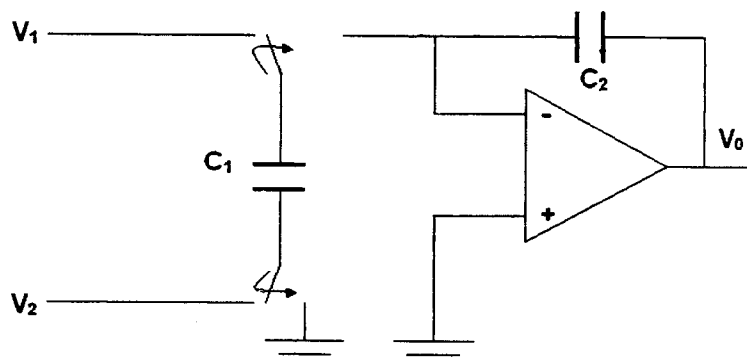
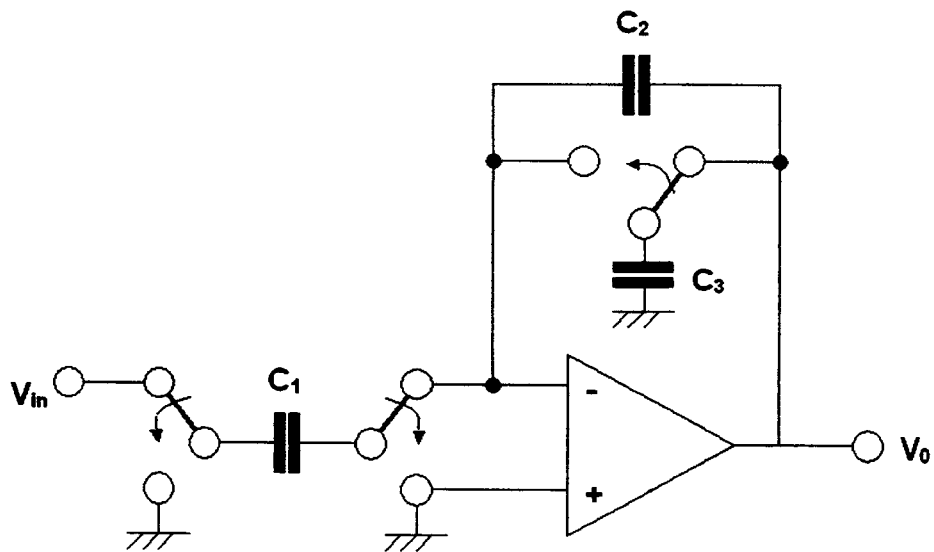

Figure 5.1
Figure 5.2
- (b) Figures 5.1-5.3 show three sampled-data integrator building blocks. Derive an expression for the transfer function of the integrators of Figure 5.1 and Figure 5.2. All switches are implemented by MOSFETs of equal size. Assume that the integrators are driven by non-overlapping clocks with a clock frequency much higher than the maximum input signal frequency. Also assume the switches are ideal. [10]